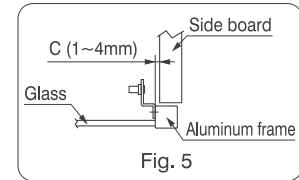

Fig. 5
※ The HDSN-AZ mounting plate ⑦ should be mounted so that the distance (C) between the side board inside surface and the aluminum frame side surface be in the range of 1~4mm. (Fig. 5)
Step 3. Put the hole of the HDSN-30 side body ① to the axis of the body mounting plate ②, insert the unit body up to the root of the plate making click.